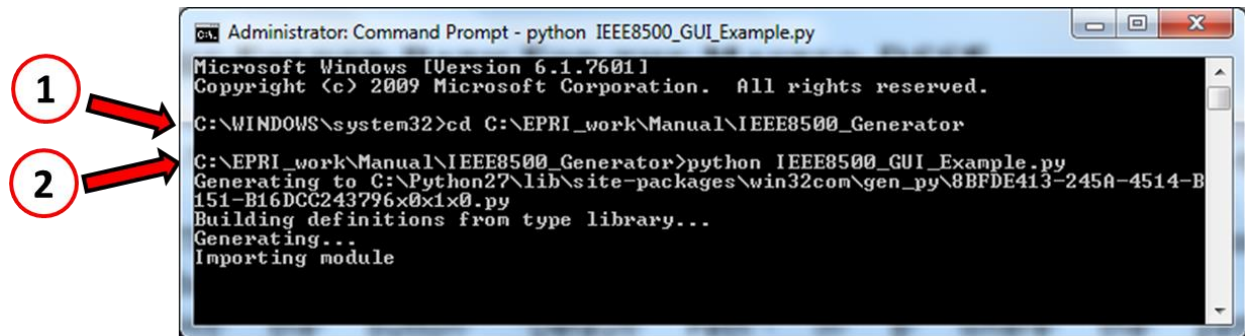

Figure 1 How to load the GUI file for the IEEE 8500 Test-Case
2. Digit ***cd PathWhereIEEE8500\_Gui\_ExampleIsLocated*** (1 in Figure 1)
4. Digit ***python IEEE8500\_GUI\_Example.py*** (2 in Figure 1)1